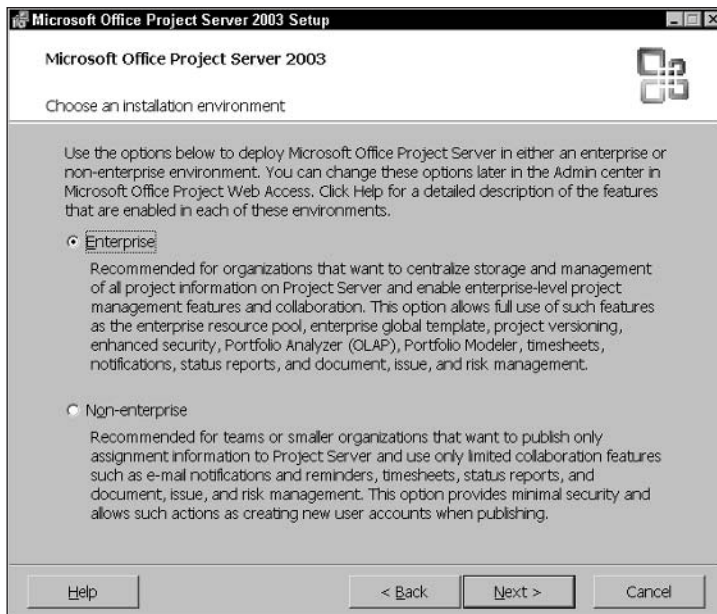

Figure 18-33: Choose an installation environment.
18. On the Choose an installation environment page, select the Enterprise option button or the Non-enterprise option button and click Next (see Figure 18-33). If you plan on using Project Professional and you use only enterprise resources, choose the Enterprise option. Otherwise, choose the Non-enterprise option. Click Next.